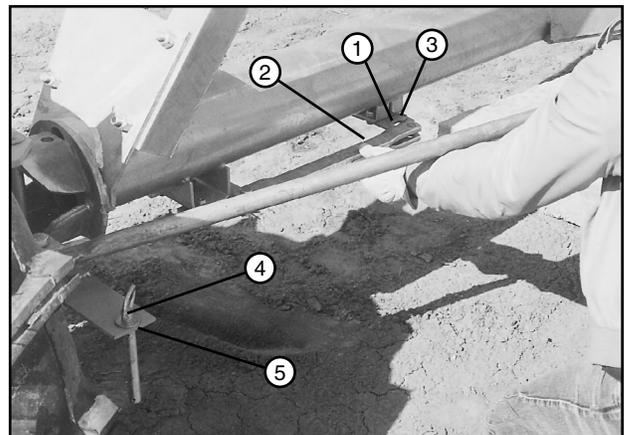

Figure 41-2 1. Carrier Spring
19. Lift each carrier spring and release the tow link bar from the tow link carrier. Remove torque pin from each gearbox steering arm. See figure 41-2.